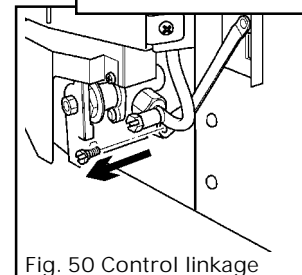

Fig. 50 Control linkage
**13.7.3** Disconnect the control linkage by removing the knurled screw which connects the control linking bar with the control pivot unit (see figure 50)